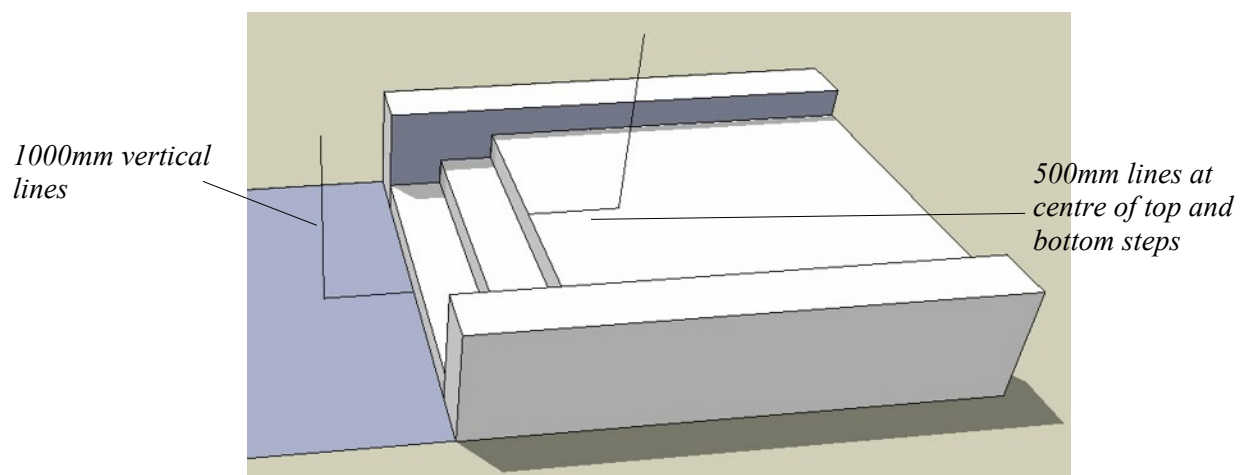

Figure 70. 500mm and 1000mm lines drawn in position
- Draw 500mm lines from the middle of the top and middle of the bottom of the steps as shown in Figure 70, ensuring that both line are in the 'Green direction'.
- From the ends of both lines draw 1000mm lines upwards in the 'Blue direction' as shown in Figure 70.